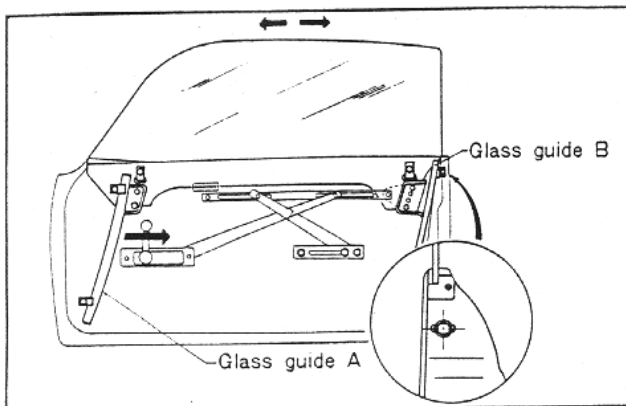

Fig. 14-71 Fore and aft adjustment
2. Push rearwards the glass guide as shown in Fig. 14-71 the upper bolt.